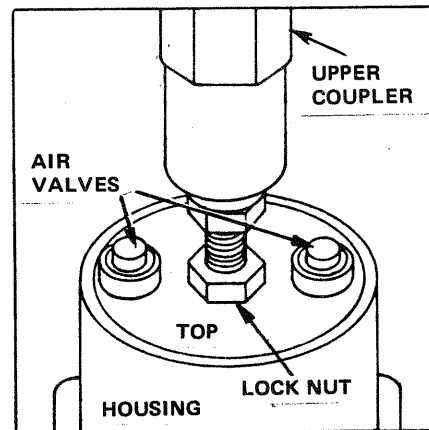

FIGURE 9-20 Dashpot adjustment parts.
- G. If the Solenoid operates correctly, proceed to Point P on page 134. If the trouble still exists, loosen first one, then the other of the Air Valves (see FIGURE 9-20) on the top of the Dashpot to lessen the internal resistance of the Dashpot. See the CAUTION and NOTE below.
- H. If the Solenoid operates correctly, proceed to Point P on page 134. If the Solenoid still does not have sufficient thrust to lift the Dampers, the Dashpot Helper Spring should be engaged to increase the thrust. Refer to FIGURE 9-20. To engage the Helper Spring, loosen the Lock Nut at the top of the Dashpot and turn the top of the Dashpot CLOCKWISE until the Solenoid lifts the Dampers. See the CAUTION under Point G above.